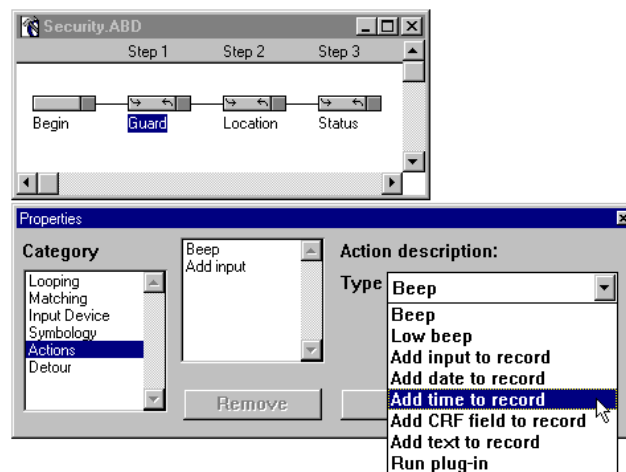

Figure 3-24 Actions Property - Add Time to Record
22. Select **Add time to record** from the **Action description** pop-up menu (Figure 3-24).